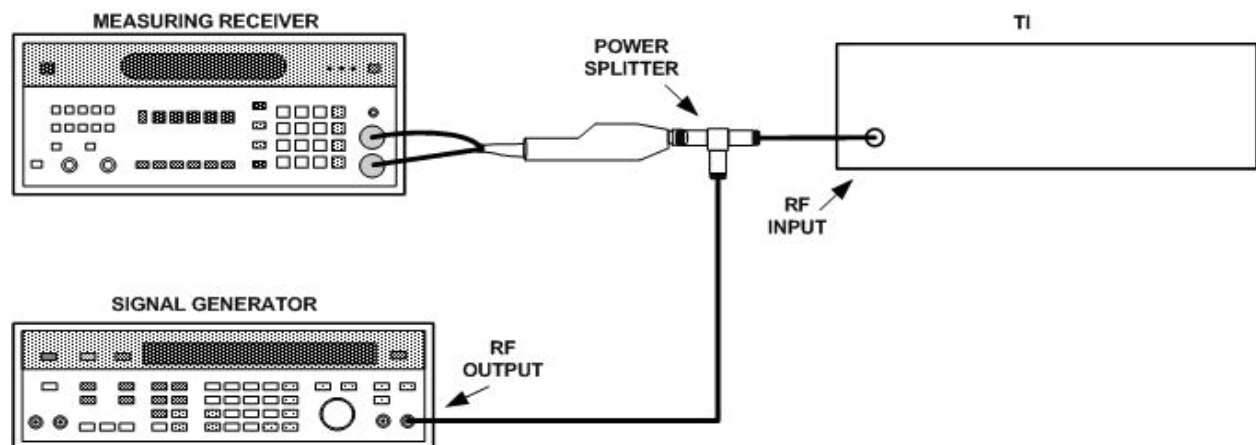

Figure 2. AM and FM accuracy - equipment setup.
(1) Connect equipment as shown in figure 2.